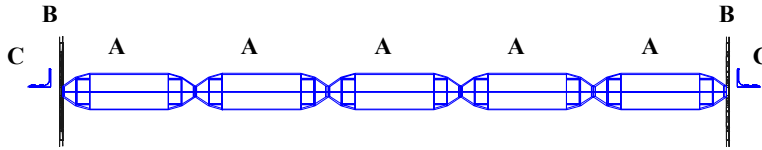

Figure 2
Step 1: Material needed per installation (See Figure 2):